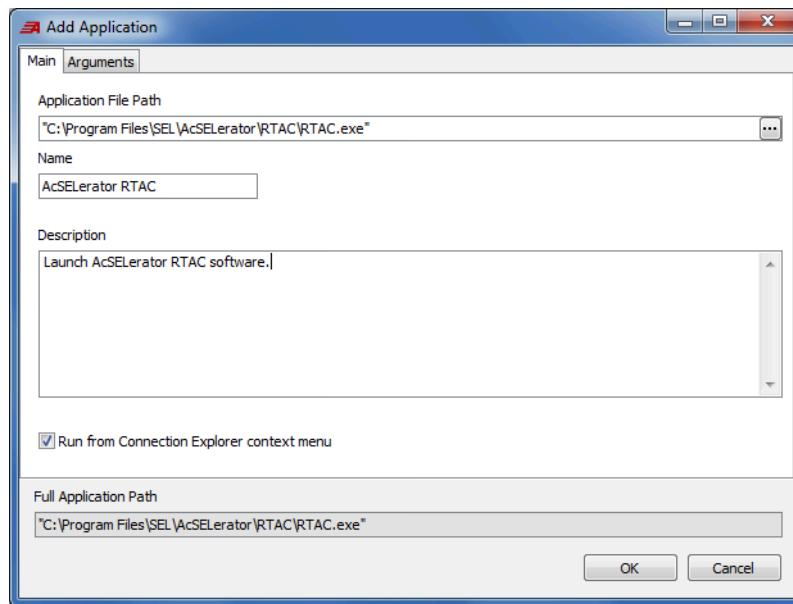

Figure 4.23 Application Description
- Step 10. Enter a **Description**. *Figure 4.23* shows an example description.